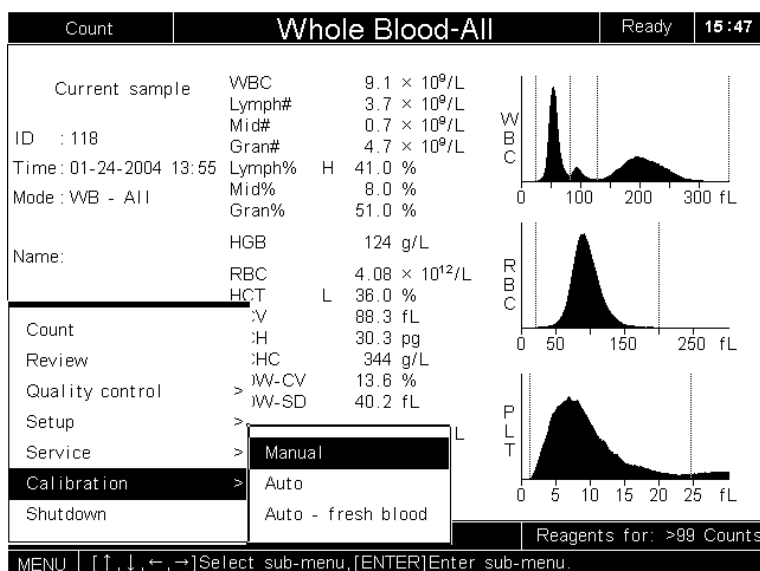

Figure 5-3 Entering Manual from the system menu
1. Press [MENU] to enter the system menu. Press the appropriate arrow keys to move the cursor to **Calibration** → **Manual**, as Figure 5-3 shows.